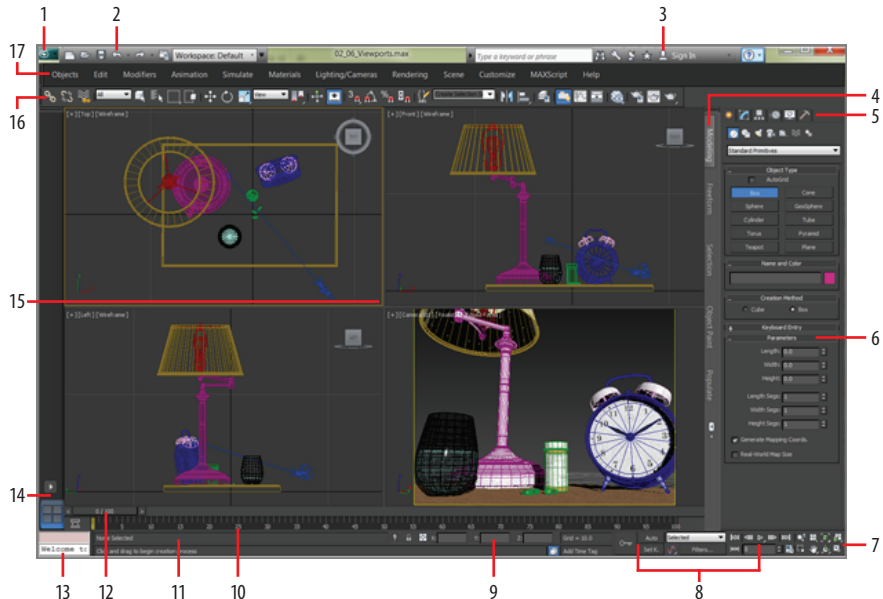

FIGURE 1.1 The 3ds Max interface elements
Figure 1.1 shows the 3ds Max UI. (See Table 1.1 for explanations of the UI elements.) At the very top left of the application window is an icon () called the Application button; clicking it opens the Application menu, which provides access to many file operations. Also running along the top is the Quick Access toolbar, which provides access to common commands, and the InfoCenter, which offers to access many product-related information sources. Some of the most important commands in the Quick Access toolbar are file management commands such as Save File and Open File. If you do something and then wish you hadn't, you can click the Undo Scene Operation button () or press Ctrl+Z. To redo a command or action that you just undid, click the Redo Scene Operation button () or press Ctrl+Y.
*The numerals in the first column refer to labels in Figure 1.1.
The Perspective viewport displays objects in 3D space using perspective. Notice in Figure 1.1 how the distant objects seem to get smaller in the Perspective viewport. In actuality, they are the same size, as you can see in the orthographic viewports. The Perspective viewport gives you the best representation of what your output will be.